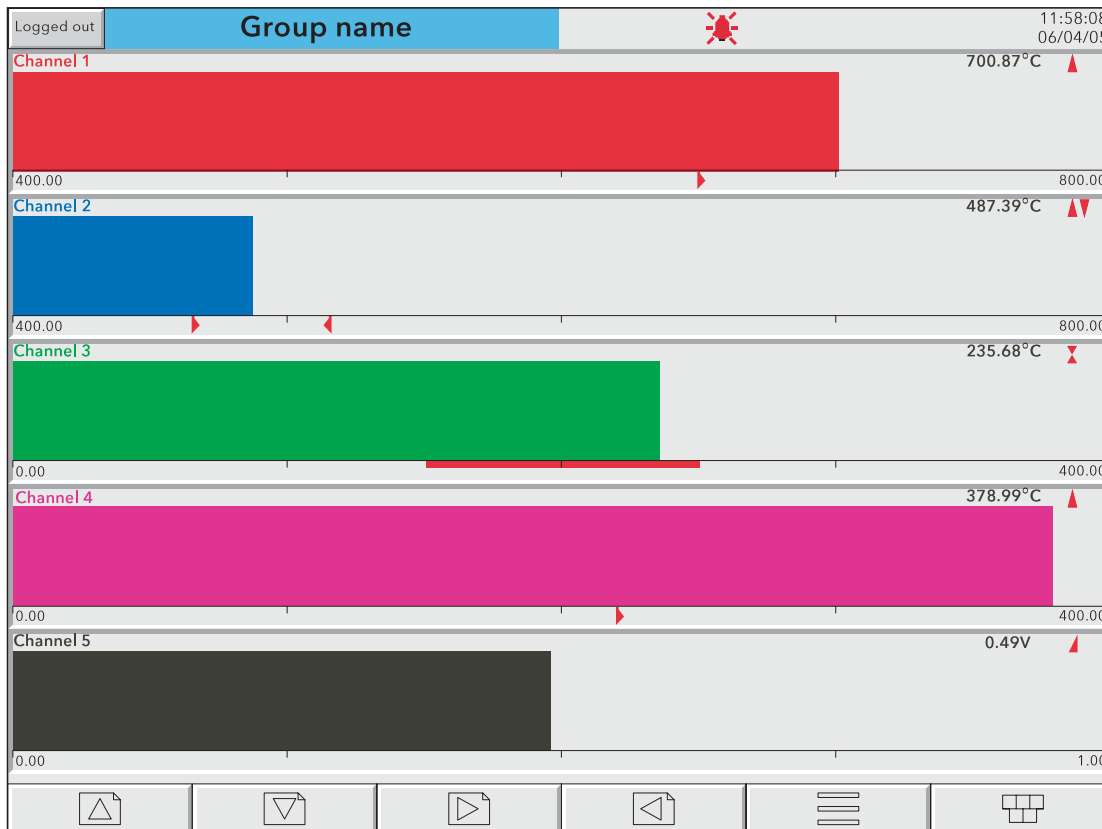

Figure 3.4.4a Horizontal bargraph display (single column example)
Entered from Vertical bargraph by means of the down arrow key, or selected using the Root Menu 'Goto View' key, this display mode shows the Process Variable (PV) values as horizontal bars with digital values and alarm data displayed, as shown in figures 3.4.4a and 3.4.4b.